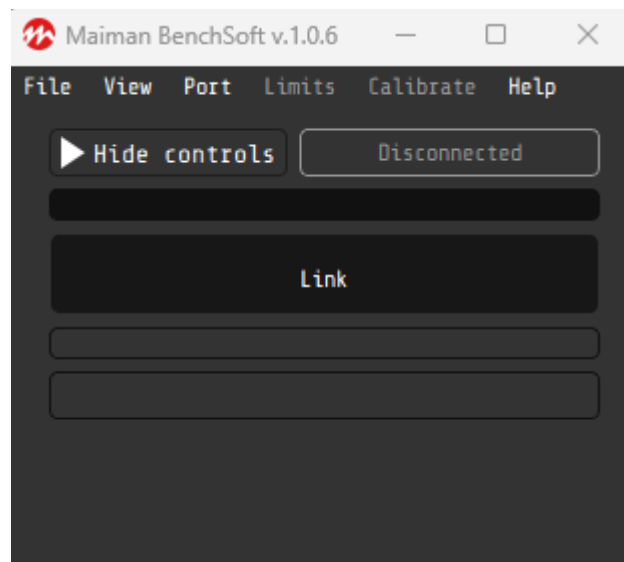

Figure 6. MAIMAN BENCHSOFT software start up window
4. Open the program Maiman BenchSoft. Initial window of the software is shown in Figure 6.